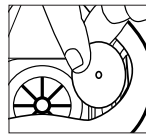

Fig. 9
1. Remove existing valve(s) by lifting from post(s). (Fig. 9)